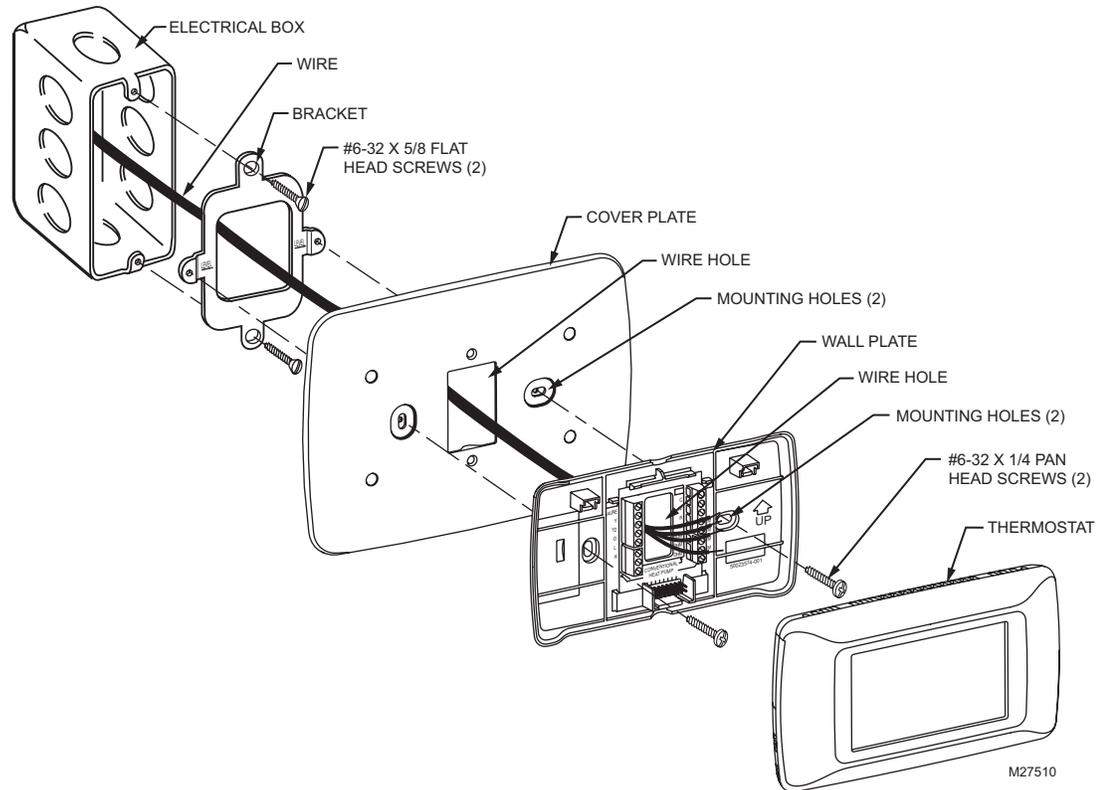

Fig. 2. Mounting to a vertical electrical box using the optional Cover Plate Assembly bracket (part nbr. 50028399-001).
With the optional cover plate assembly, it can be mounted vertically on a standard 2 x 4 in. electrical box (Fig. 2 on page 3). The mounting procedures vary depending on the mounting location.
Use Fig. 2 and the following procedure to mount the display to a standard 2 x 4 in. electrical box. The display can be mounted to either a horizontal or vertical electrical box.
3. If the 2 x 4 in. electrical box is mounted in a vertical orientation (Fig. 2), install an optional Cover Plate Assembly bracket on the electrical box first and then position the display wall plate over the bracket's horizontal holes. Insert and tighten the two screws to secure the display on the electrical box.